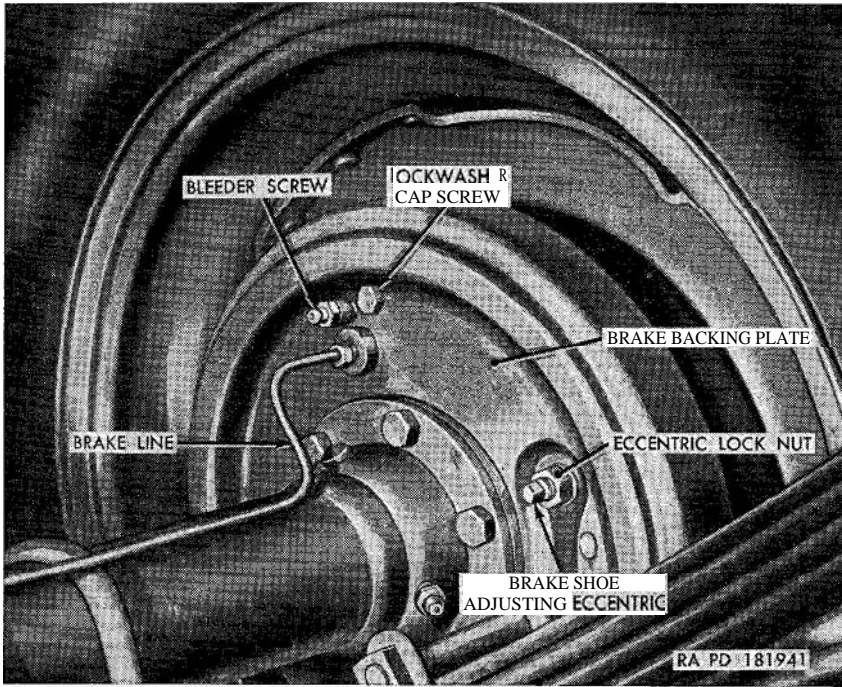
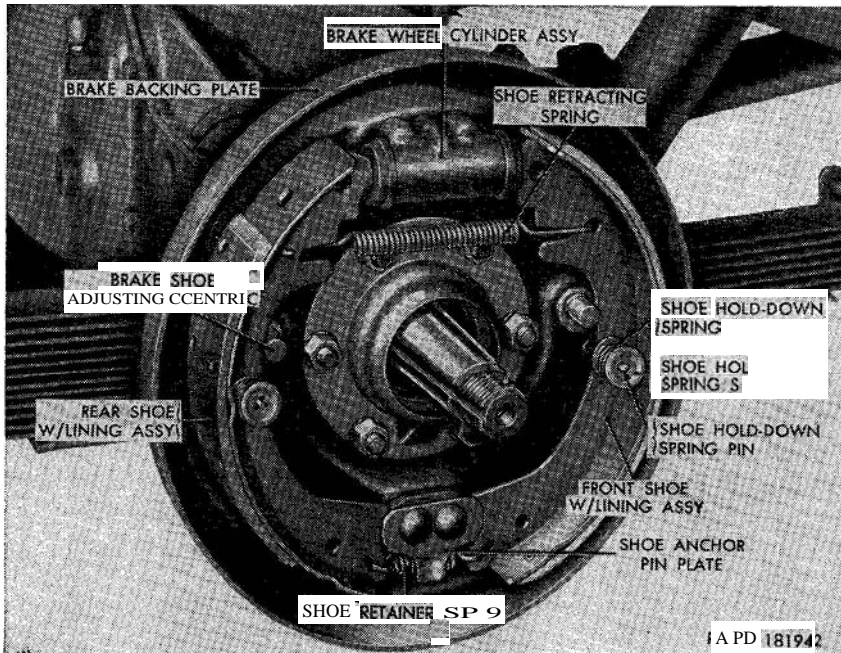

Figure 159. Rear brake backing plate installed
Figure 160. Rear service brake assembly—wheel, hub and drum removed.
- (1) Make certain the pedal shaft assembly is lubricated and the brake pedal retracting spring is undamaged and properly connected.
- (2) Hold a rule next to the brake pedal and depress the pedal by hand. No resistance should be felt until the pedal has traveled one-half inch. If distance traveled before resistance is felt is incorrect, adjust as shown in (3) below.
- (3) Loosen the locknut on the eye bolt and turn the master cylinder push rod clockwise to decrease and counterclockwise to increase the free travel. Tighten the lock nut when adjustment is correct.
*h. Service Brake Shoe Adjustment* (fig. 159). Except where noted, the procedure for adjusting the service brake shoes is the same for all shoes.
- (1) Jack up the vehicle until tire clears the ground. Block one of the other wheels.
- (2) Loosen the brake shoe eccentric lock nut.
- (3) Rotate the wheel and, at the same time, turn the shoe adjusting eccentric (clockwise for front shoe, counterclockwise for
- (1) Jack up the vehicle and remove the wheel and brake drum (par. 209a).
- (2) Loosen the brake shoe eccentric lock nut (fig. 159) and turn the brake shoe adjusting eccentric (fig. 160) until the low side of the eccentric touches the brake shoe.
- (3) Unhook and remove the shoe retracting spring and the (anchor end) shoe retainer spring.
- (4) Press against the shoe holddown spring seat to compress the shoe holddown spring and turn the seat until the flat end of the shoe holddown spring pin is alined with the seat slot. Remove the spring and spring seats. Remove the opposite spring and seats in the same manner.
- (5) Remove the pins through the brake backing plate.
- (6) Spread both brake shoe with lining assemblies to disengage the upper ends of the shoes from the brake wheel cylinder assembly and the lower ends from the shoe anchor pin plate. Remove both shoes with lining assemblies.
*d. Brake Shoe with Lining Assembly Installation (fig. 160).*
- (1) Position the front shoe with lining in the front half of the brake backing plate with the upper end of the shoe inserted into the wheel cylinder and the lower end engaged in the slot behind the shoe anchor pin plate. Install the rear shoe on the rear half of the backing plate in the same manner.
- (2) From the back of the brake backing plate, insert the brake shoe holddown pins through the holes in the plate and shoes.
- (3) Install a shoe holddown spring seat over the pin with the seat cupped side facing the shoe. Install a shoe holddown spring and a second spring seat on the pin with the second seat cupped side facing away from the shoe.
- (4) Aline the spring seat slot with the pin flat end. Force the seat over the pin and turn the seat 90° to lock it in position. Install the holddown spring and spring seats on the opposite side in the same manner.
- (5) Hook the two ends of the (anchor end) shoe retainer spring through the holes in the lower ends of the two shoes. Hook
- (2) Unhook and remove the shoe retracting spring (fig. 160) from the upper ends of the two shoes, and spread the shoes as far apart as possible.
- (3) Disconnect the brake line from the brake backing plate (fig. 159).
- (4) Remove the two lockwasher cap screws securing the brake wheel cylinder to the backing plate and remove the cylinder (fig. 160).
- (1) Position the wheel cylinder (fig. 160) on the brake backing plate (fig. 159) with the cylinder holes alined with the plate holes. Secure the cylinder to the backing plate with two lockwasher cap screws.
- (2) Connect the brake line to the wheel cylinder fitting in the brake backing plate (fig. 159).
- (3) Insert the brake shoe ends into the wheel cylinder ends and install the shoe retracting spring (fig. 160).
- (4) Install the drum and wheel (par. 209b) and bleed the brakes (par. 237).